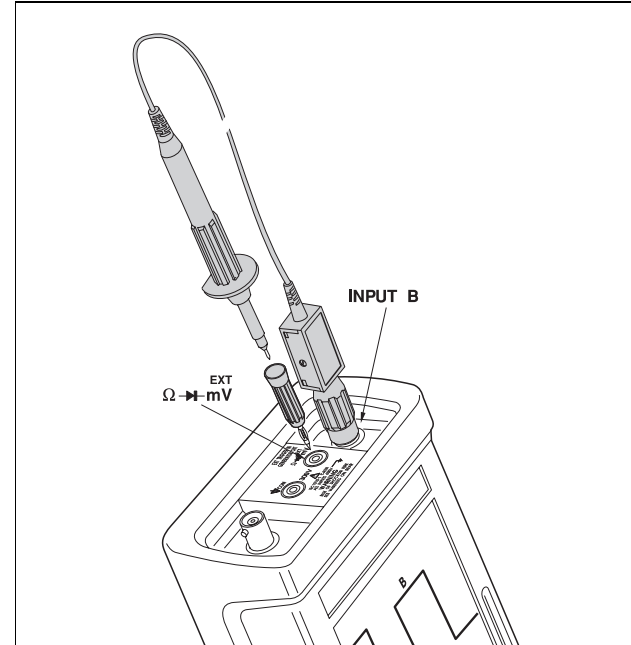

Figure 9-4 INPUT B Probe Calibration Setup
1. Connect the INPUT B BNC input to the GENERATOR OUT red banana jack. See Figure 9-4. Use the grey scope probe and the grey 4-mm banana adapter.